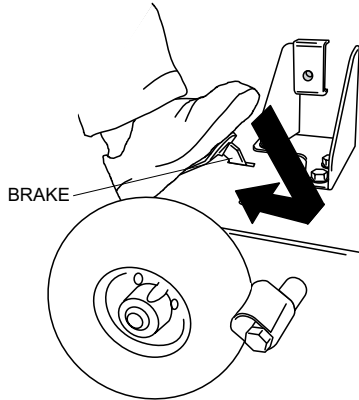

Figure 13. Applying Brake
1. Step on the brake pedal while pulling on the T-handle until the brake pedal is all the way down. See Figure 13.